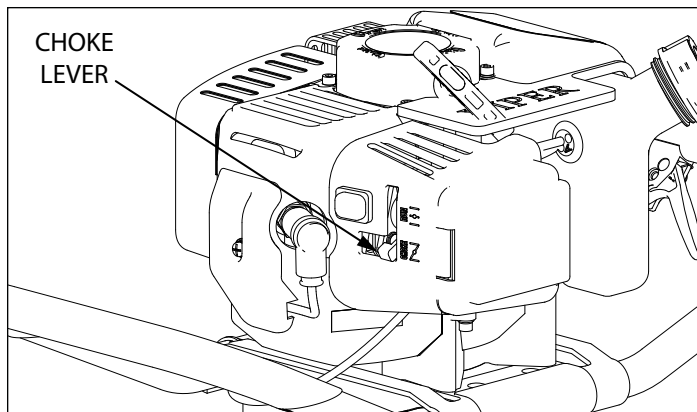

Figure 2
1. Before removing the air filter cover, move the choke lever to the choke position. **SEE FIGURE 2.**